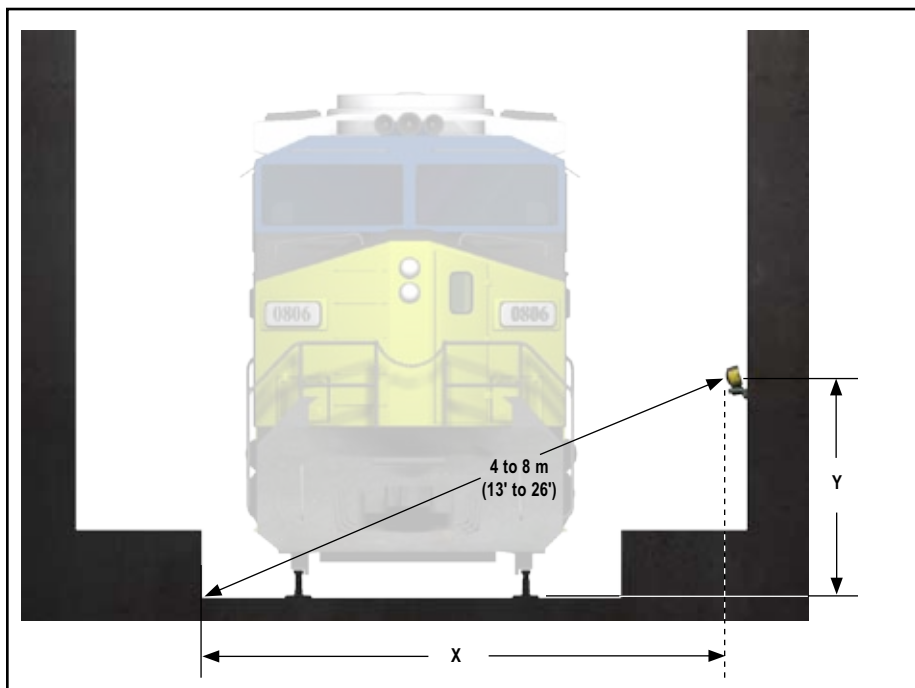

Figure 4. Setup for tunnel train detection
1. Mount the sensor such that Y is 1/3 of X, and align the sensor so the center of the beam strikes the corner of the tunnel beyond the far rail, as shown in Figure 4.